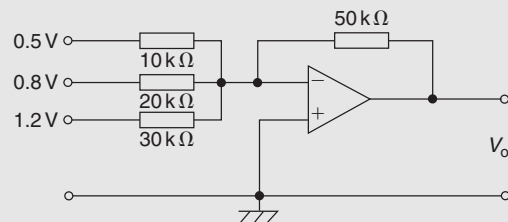

Figure 19.12
**Problem 8.** For the summing op amp shown in Fig. 19.12, determine the output voltage,  $V_o$